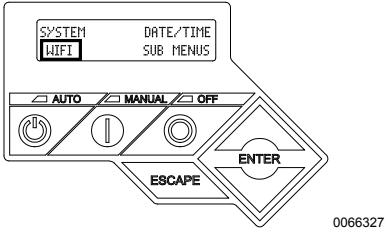

Figure 3-29. Select Wi-Fi Menu
- 1. See Figure 3-29. From the main controller display, navigate to the Wi-Fi menu and press ENTER.